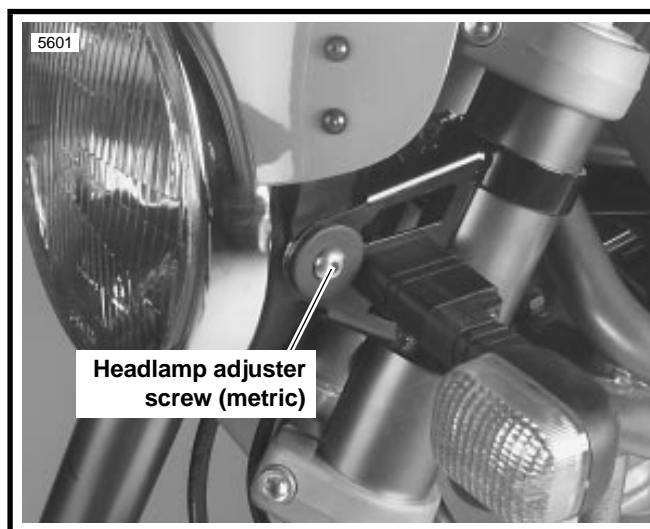

Figure 1-49. Adjusting Headlamp
1. See Figure 1-49. Loosen both adjuster screws (metric).